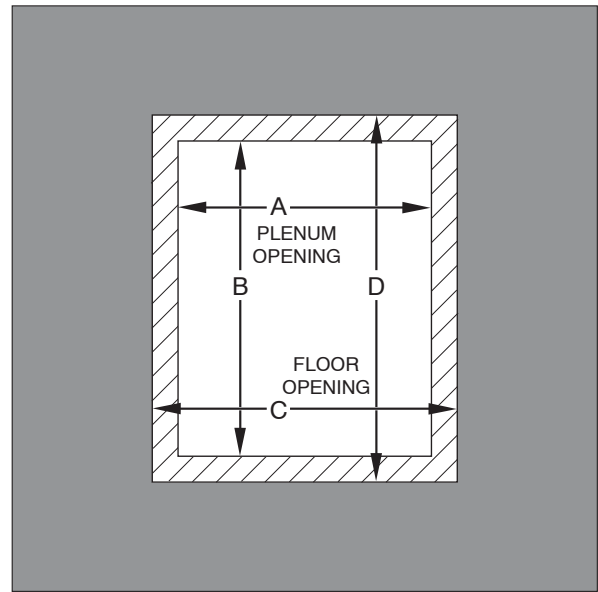

Fig. 11 – Floor and Plenum Opening Dimensions
2. Construct hole in floor per Table 4 and Fig. 11.
3. Construct plenum to dimensions specified in Table 4 and Fig. 11.